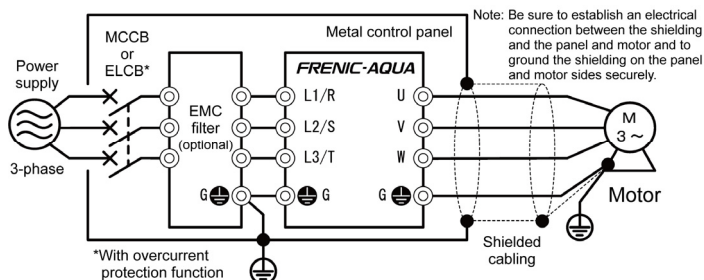

Figure 8.3 Installation inside a Panel
- 5) When using an externally connected EMC filter (optional), place the inverter and filter on a grounded metal plate such as the surface of a panel, as shown in Figure 8.3. If noise emissions exceed the standard, place the inverter and any peripheral equipment inside a metal panel. For more information about how to use the inverter in combination with a filter, see Table 8.4.
Note that connection to the industrial low-voltage power lines is an exception. (See Figure 8.3.)